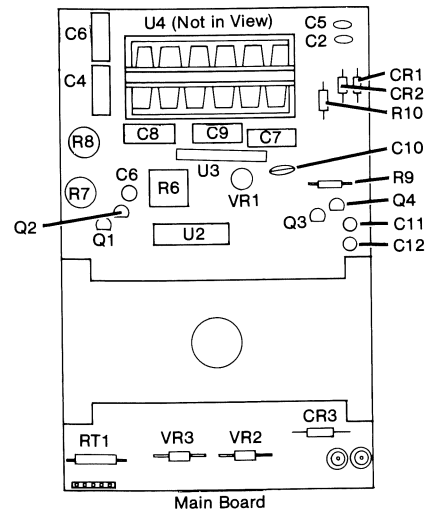

Figure 21. Components Locator for TECH 310
5. Using a small flat-tipped screwdriver, adjust potentiometer R6 (R11 on TECH 330) as identified in Figures 21 and 22, until Multimeter Digital Display reads +190.0 or +190.1